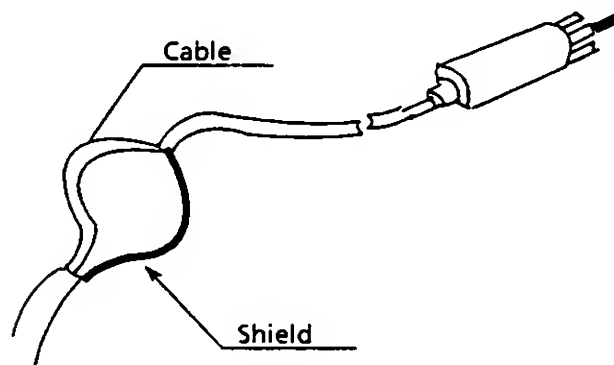

Figure 270-1 MOH Cable Shield Ground Exposed
- D. Bend the cable near the middle of the exposed shield and separate the shield from the inner insulation in preparation for soldering, refer to figure 270-1.